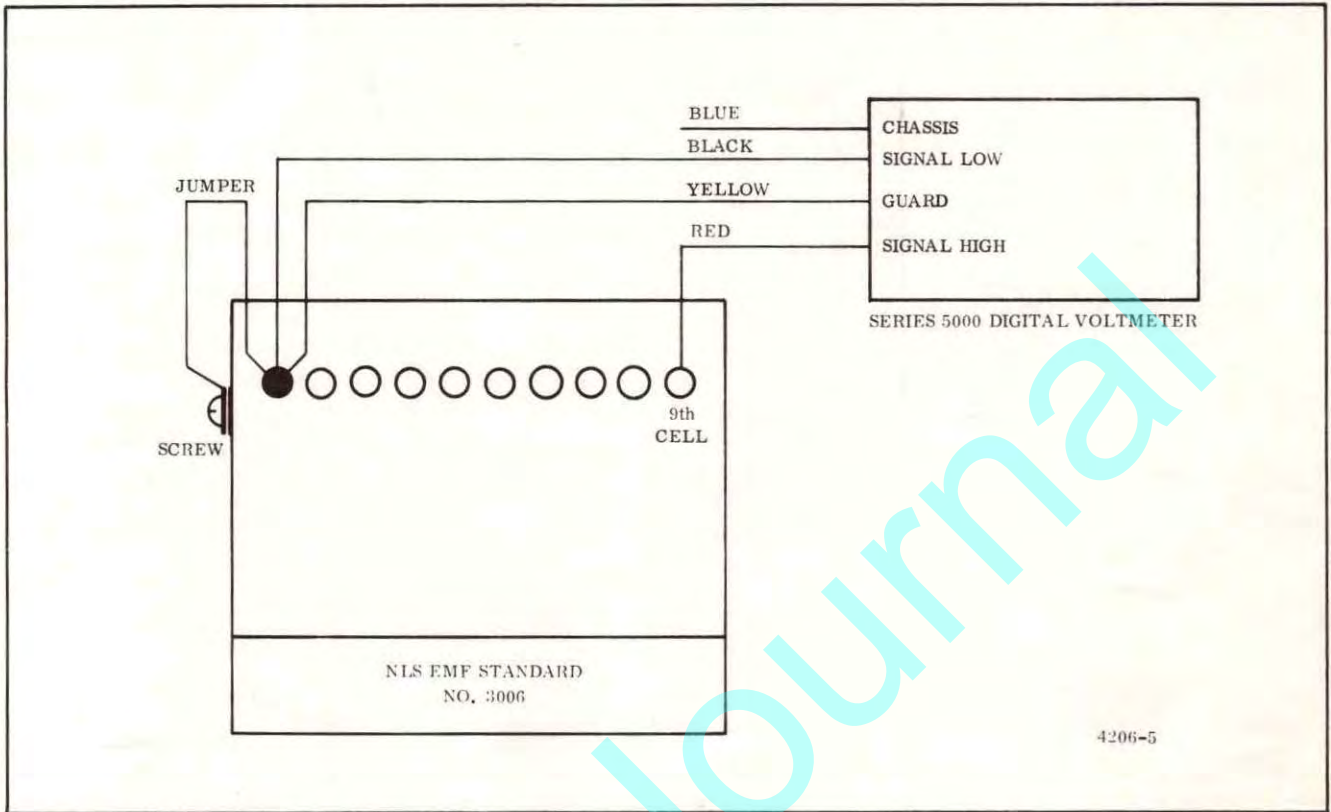

Figure 3-5. Basic Accuracy Calibration Cable Connections
1. Disconnect DVM signal input leads from Ratio Test Fixture, and connect to standard cell bank as shown in figure 3-5.